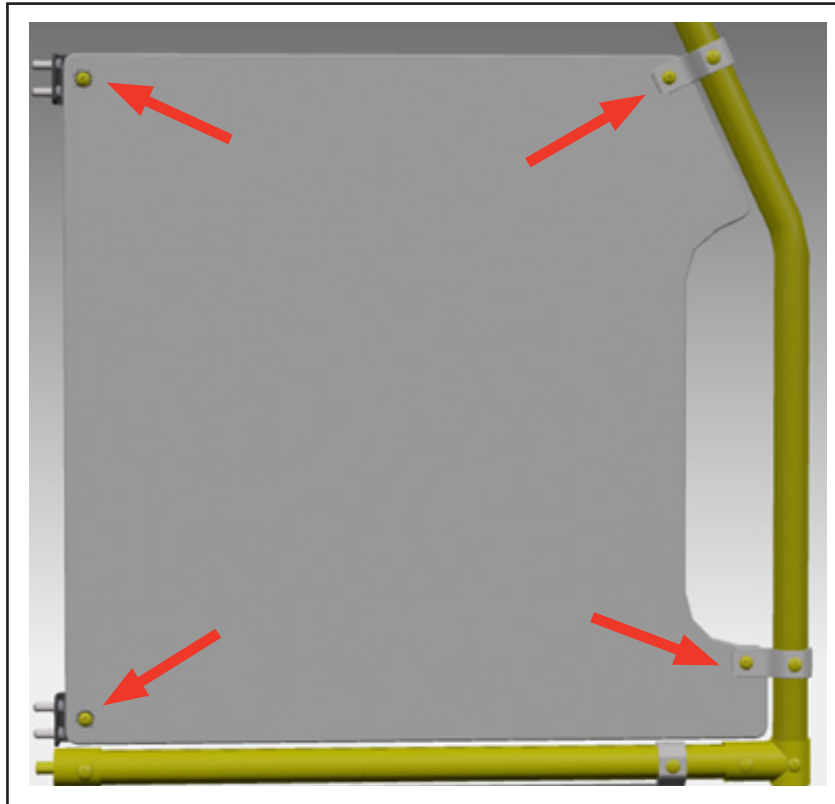

Figure 2 - Removal of Old grommet on the Lexan Panel
- 1.5. Remove the old grommets in the 4 corners of each exan panel (see figure 2).